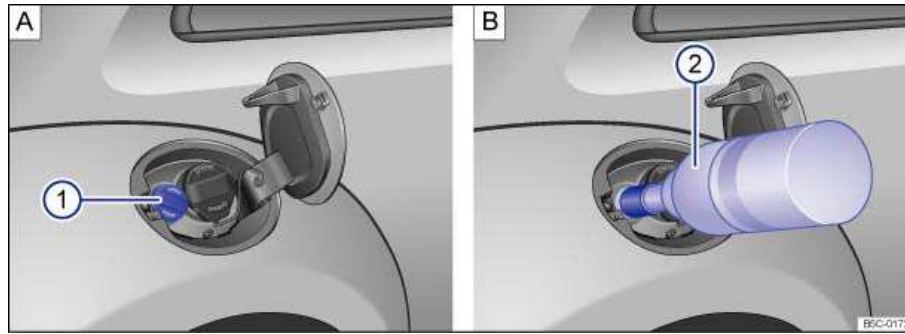

Fig. 139 AdBlue tank with filler neck cap 1 and refill bottle 2.
- Unscrew the AdBlue tank filler neck cap ⇒ fig. 139 (1) counterclockwise and remove.